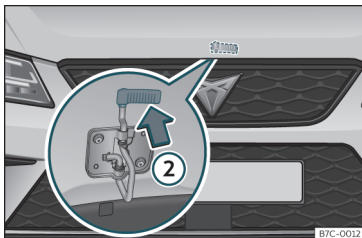

Fig. 255 Cam under the bonnet
- To lift the bonnet, press the release catch under the bonnet upwards »» Fig. 255 ②. The arrester hook under the bonnet is released.